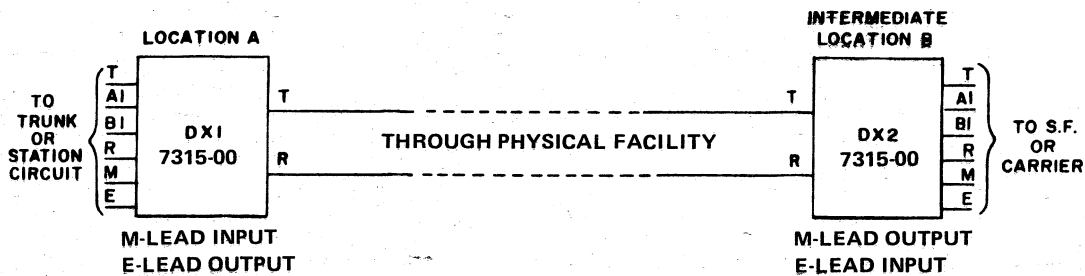

Figure 2. 7315-00 DX1/DX2 Applications Diagram
1.04 When conditioned for DX1 operation, these units accept M-lead signals and deliver E-lead signals, as shown in Figures 2 and 3. A DX1 is usually associated with a trunk or station circuit.
2.08 Dial pulsing from location A (see Figures 2 and 3) appears as M-lead battery/ground transitions to the DX1. These pulses are passed over the signaling link to the DX2, where they are reconverted into M-lead battery/ground transitions from the location B DX2 to the connecting circuit, as described in Paragraphs 2.02 through 2.06.